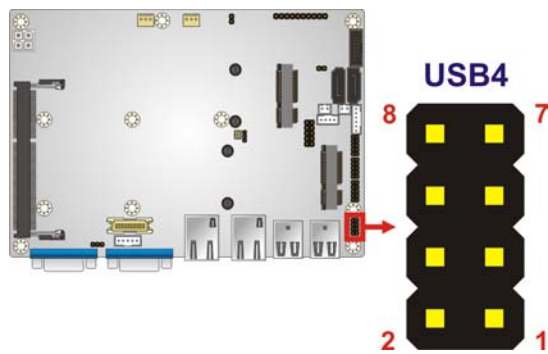

Figure 4-17: USB Connector Location
- CN Location: See **Figure 4-17**